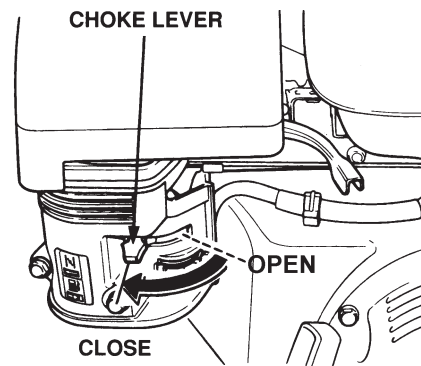

Figure 22. Choke Lever
6. Place the **Choke Lever** (Figure 22) in the "**OPEN**" position
- If the engine has started, slowly return the choke lever (Figure 22) to the **CLOSED** position. If the engine has not started repeat steps 1 through 5.